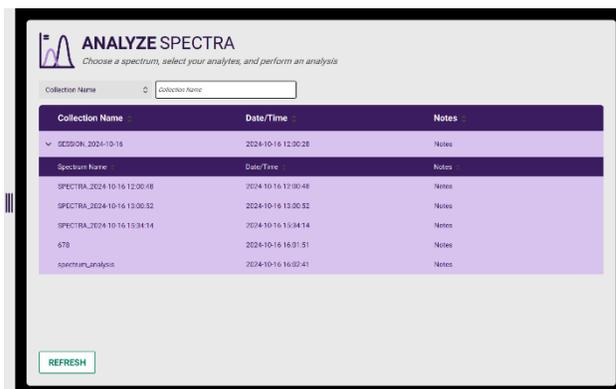

Figure 14. Sorted sample files for analysis
2. All scans can be sorted by Date/Time and Name (Fig. 14). Next to the headers, press the up/down sort icon to reorder files as needed.